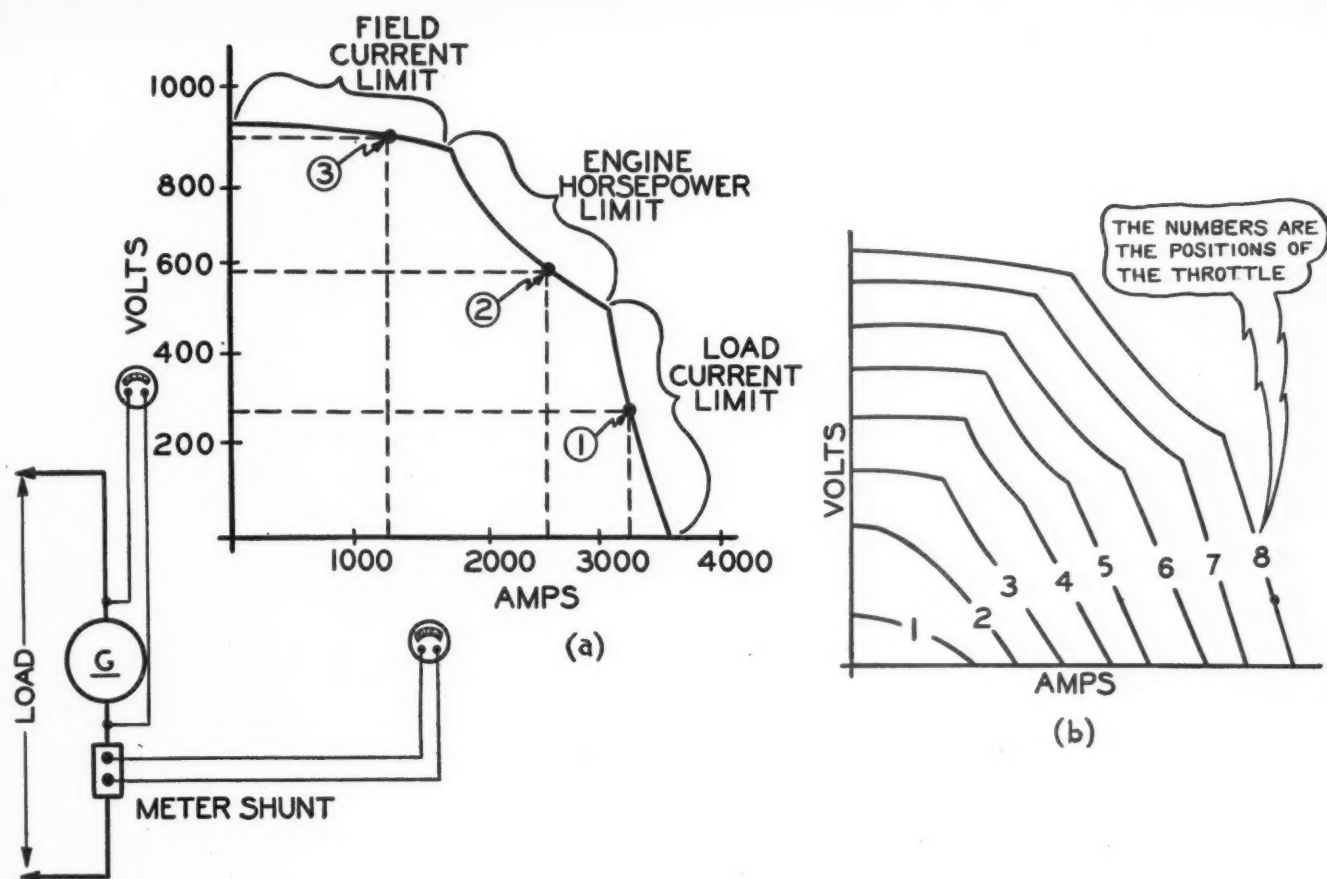

Fig. 8—Generator output curves and how they are obtained
Figure 8 is a chart showing the limits that we have talked about. Let's look at the different lines and see what they show.
To get the readings for drawing the curve in Fig. 8 (a), we have to connect the generator to a load. On the road you can get the readings by connecting up the meters as shown and letting the traction motors be the load. In the shop you use a load resistor or water box. Note that the voltmeter reads generator volts and that the ammeter reads load current.
Suppose you are starting a train. At first, the traction motors will draw a heavy current but the voltage will be low. Point 1, Fig. 8 (a), shows where such a reading would be located on the curve sheet. The amp. reading is about 3,200 and the volt reading is a little less than 300. Both these readings must be taken at the same time. If you take a couple of readings at the very low speeds and put the points on the curve sheet you can draw the load current limit line. This line shows the most current that the motors can draw in the eighth notch. The engine will not be putting out full horsepower at this point though.
Figure 8 (b) shows the curves for all 8 notches. These curves show how current, horsepower and voltage change in steps as the throttle is moved from notch to notch. Both of these sketches are very helpful in understanding how the diesel engine, the traction generator and the traction motors are made to work together as a team.
A.—The FA-4 magnet valve, Fig. 8, is required with the SC-2A circuit checking equipment where the overspeed details do not include an overspeed magnet without a time delay.